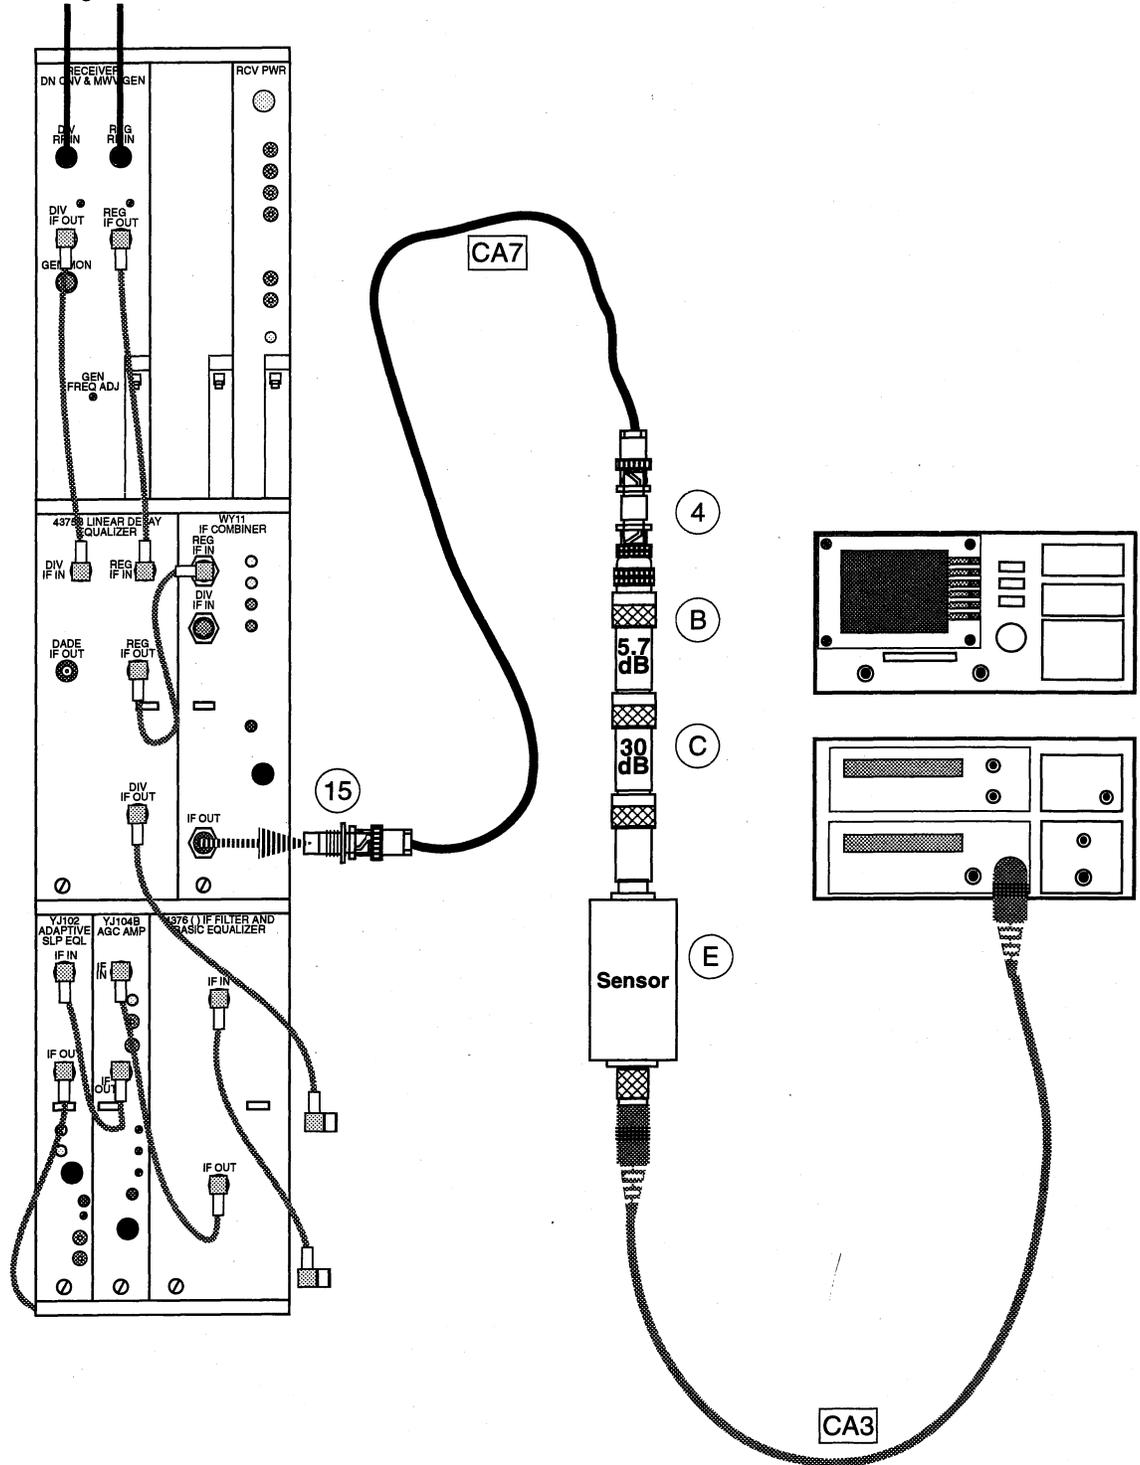

Figure 5. IF Combiner IF OUT Level (ANT DIV)
- 12 Connect the test equipment as shown in Figure 5.